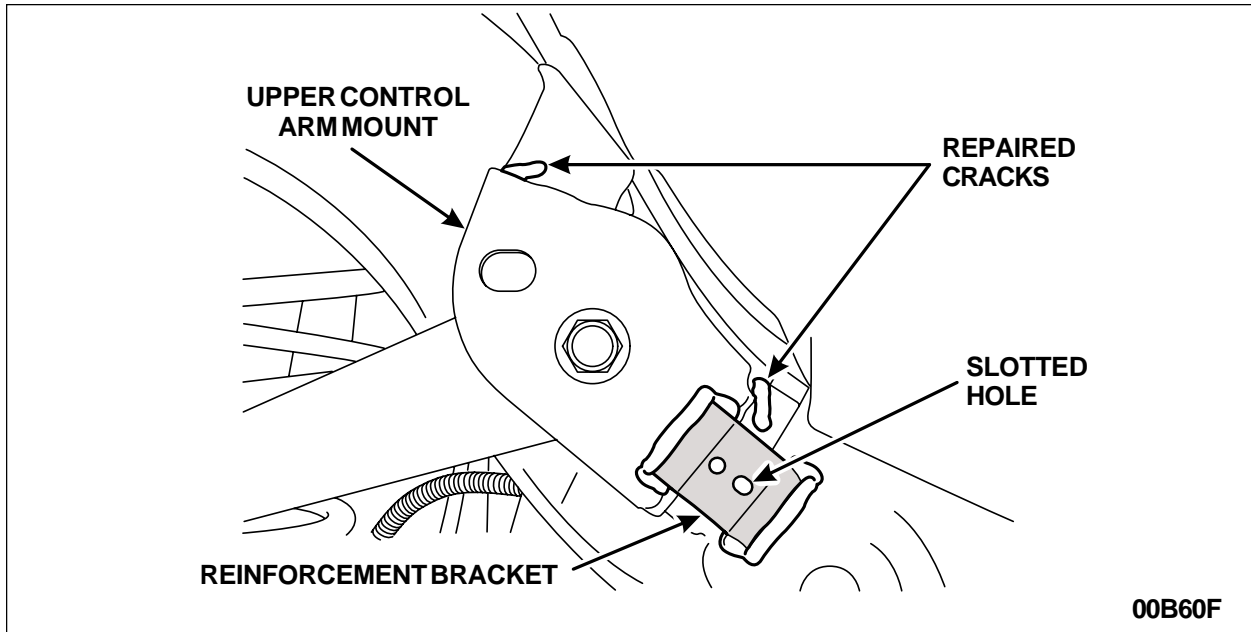

FIGURE 6
Prep the frame rail/upper control arm mount by removing the E-coat in the reinforcement bracket mounting area. If necessary grind the weld on the front edge of the upper control arm mount. Grind this weld only if it interferes with the reinforcement bracket sitting flush to the frame rail (bracket must not rock). See Figure 6.
2. Position the upper control arm mount reinforcement bracket with the slotted hole closest to the frame rail. The bracket must fit flush to the frame rail and must be centered vertically and flush with the outer face of the upper control arm mount. Clamp the bracket into place. See Figure 6.